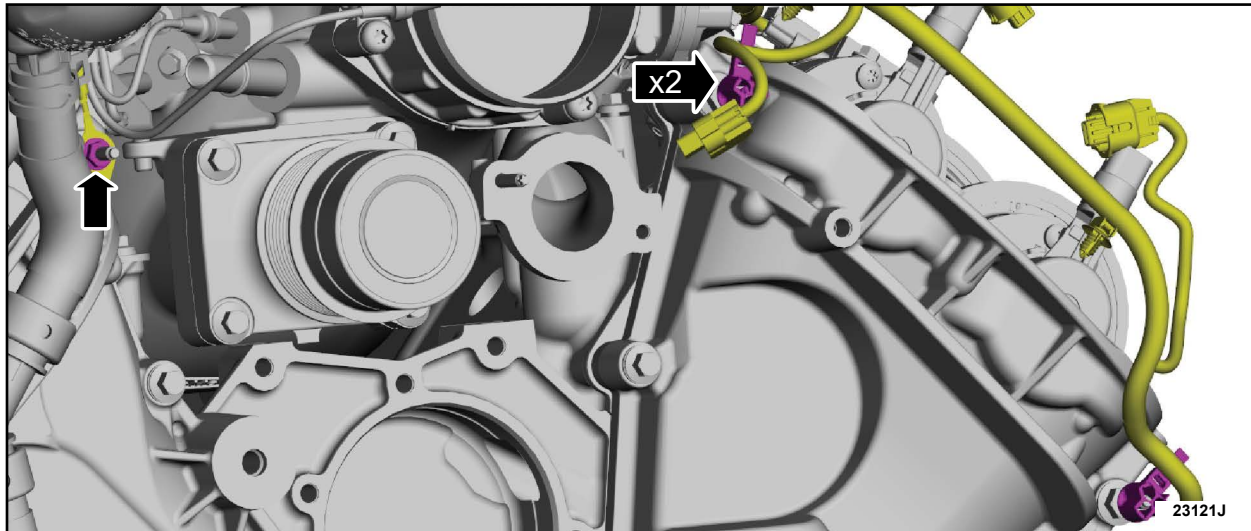

FIGURE 24
39. Attach the wiring harness retainers, install the ground wire and nut. See Figure 24.